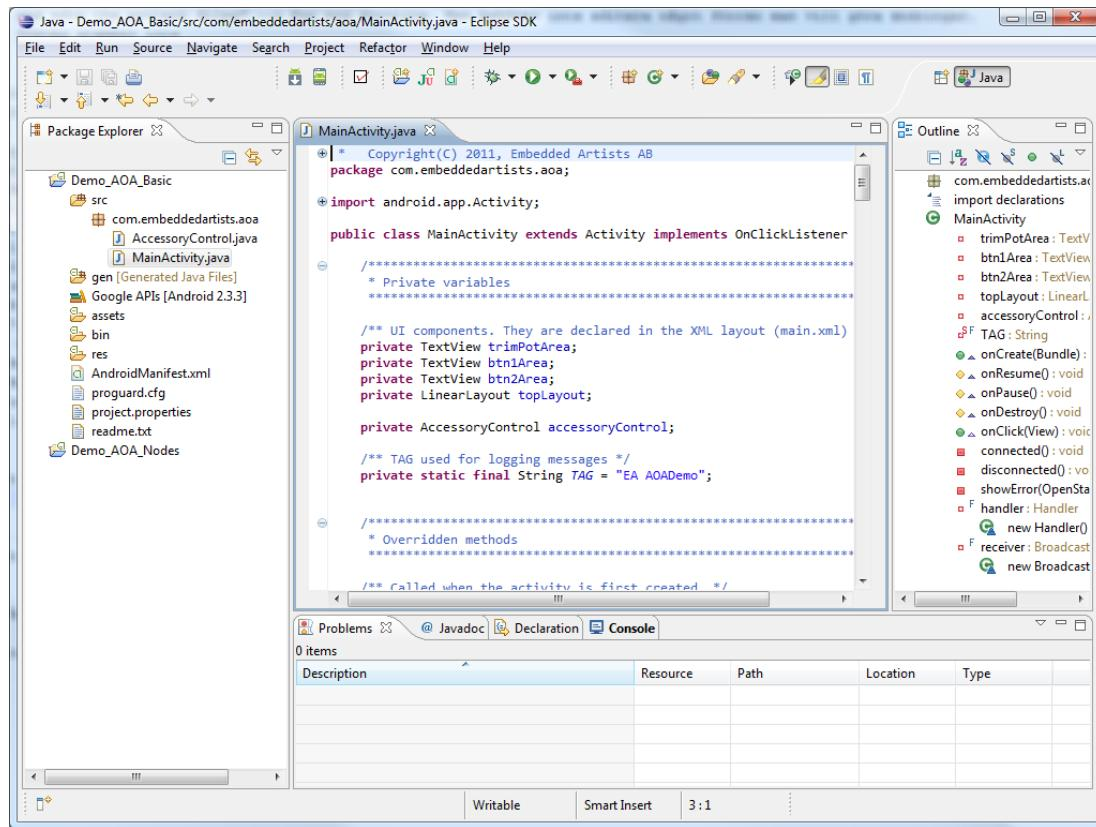

Figure 21 - AOADemo in Eclipse editor
8. When the projects are imported the code can be browsed, see Figure 21.